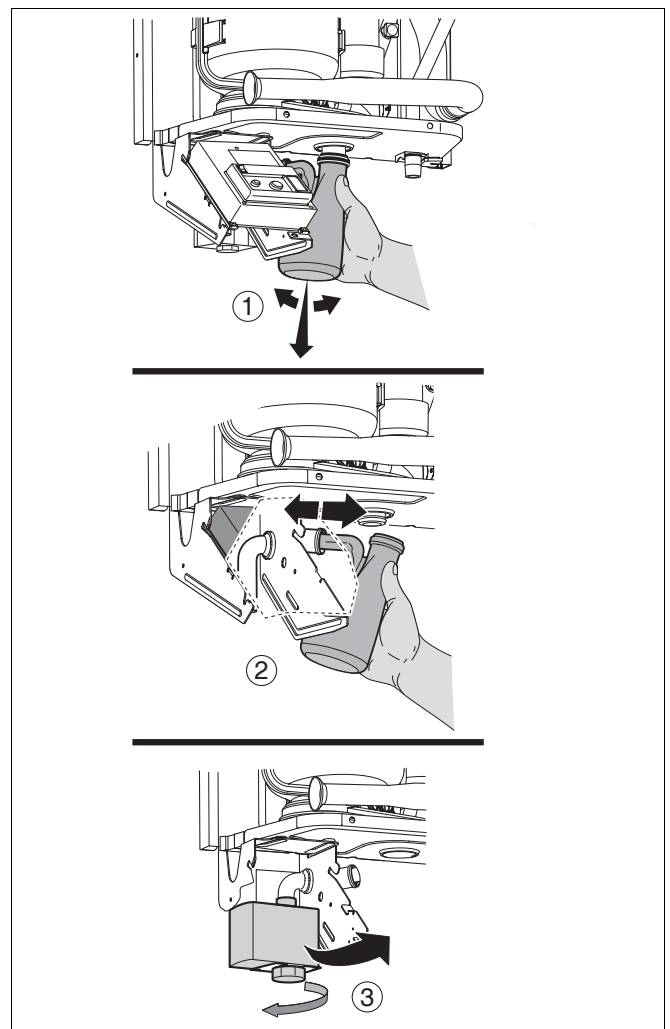

Fig. 47 Removing the condensate trap and syphon
- Remove the trap and withdraw it from the outlet see fig. 47, item 1 and 2.
- Loosen the swivel and disconnect the syphon from the hose (fig. 47, item 3).
- Pull the syphon out of the bracket (fig. 47, item 3).